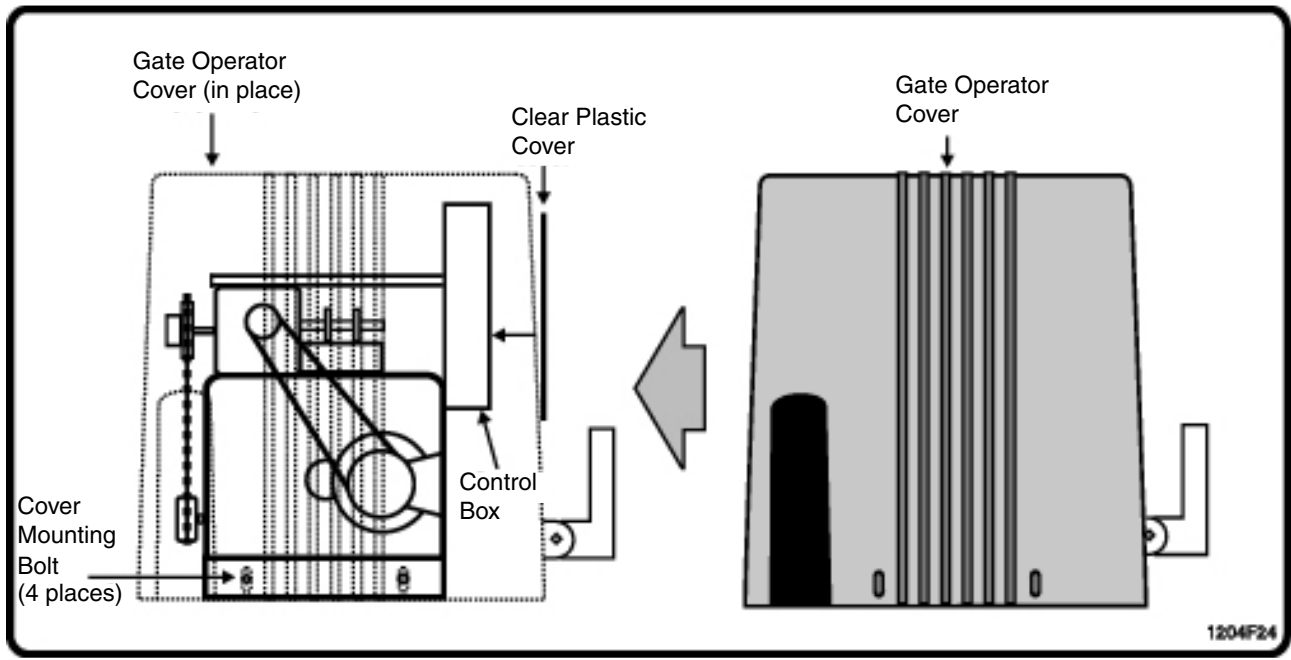

Figure 23. Gate Operator Disassembly and Assembly.
- Refer to Figure 23 to perform the following.